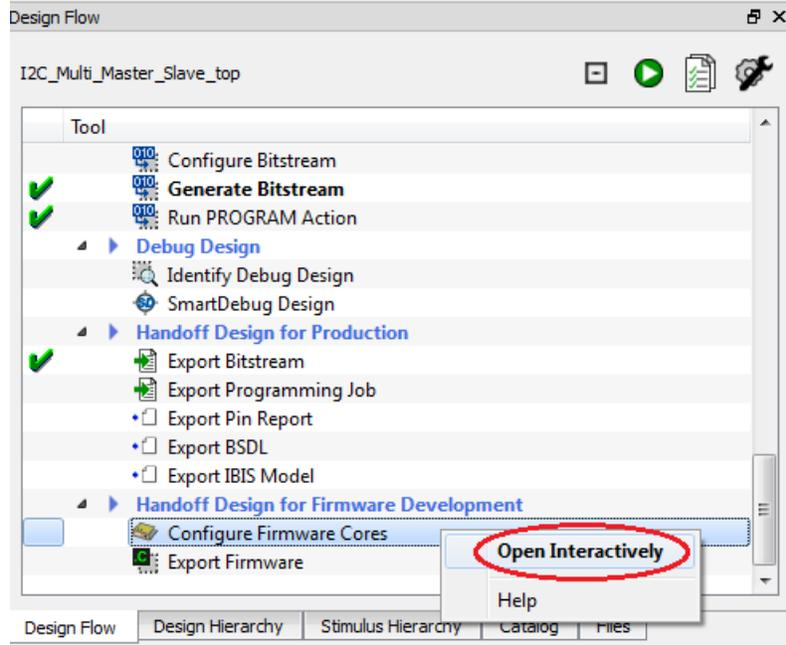

Figure 21 • Invoking Configure Firmware Cores
1. Expand Handoff Design for Firmware Development in the **Design Flow** tab as shown in **Figure 21**. Right-click **Configure Firmware Cores** and click **Open Interactively**.